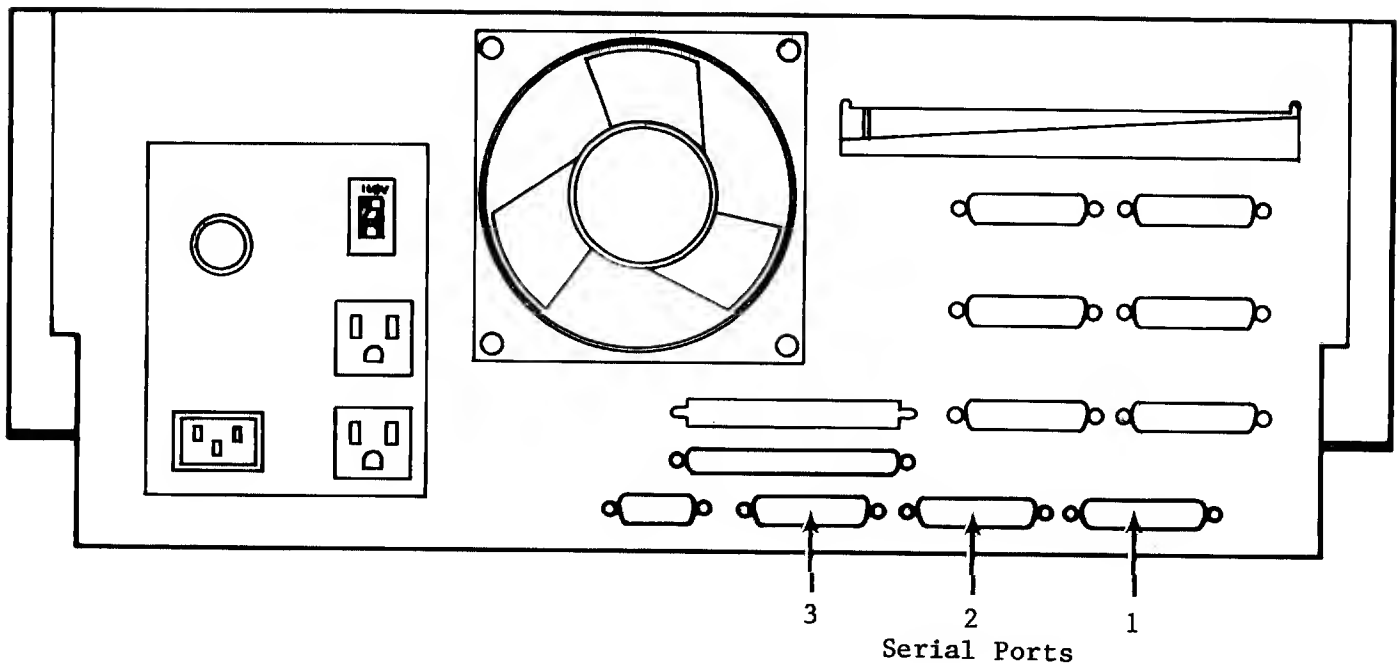
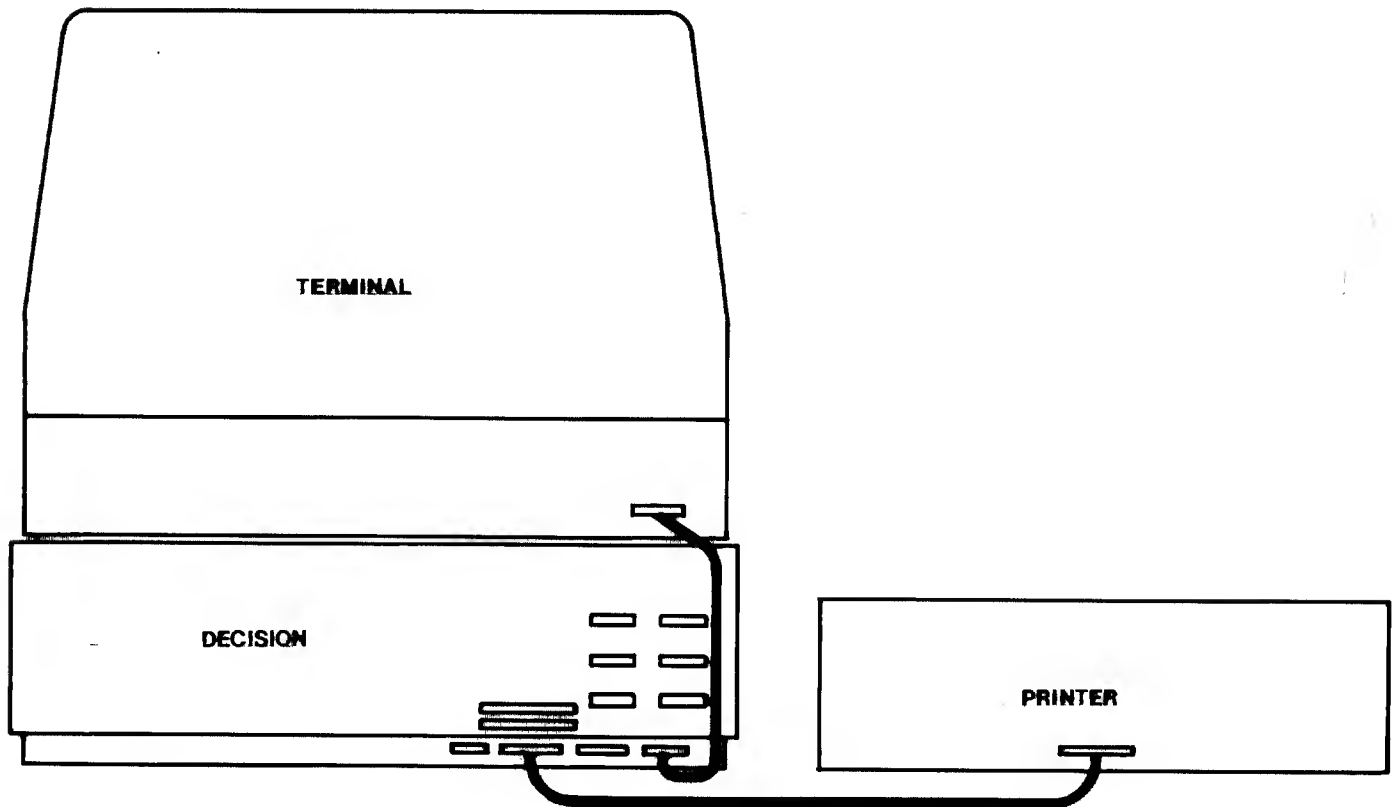

Figure 4-1: Decision Rear Panel
Figure 4-2: Connecting a Printer and Terminal
Your video terminal and printer must be connected to the Decision, and all of the devices plugged into the AC power source, before your new system can be used. This process is called "installation". Connecting a video terminal, a printer and optional, externally connected drives is accomplished by plugging in the appropriate cables to the proper connectors on the Decision rear panel. Power cords are also connected to the Decision using the AC power receptacle and utility outlets located on the rear panel. Figure 4-1 illustrates the location and labels of each rear panel connector.
2. Connect one end of the video terminal cable to the Decision rear panel port labeled Serial Port 1 (see Figure 4-1). Connect the other end of the cable to a port on the back of the terminal (see Figure 4-2).
A gummed label (sticker) will cover the AC power receptacle on the rear panel of the Decision (see Figure 4-1). This label will verify the power configuration of your unit. Make sure that this setting matches the installation site before removing the label and plugging in the Decision power cord!!
1. Plug the 50 pin printer cable connector into the pin socket labeled DAISY PRINTER (see Figure 4-1).
Your Decision is shipped with two disk drives installed, a hard disk and a 5 1/4" floppy; they are connected to separate drive controller boards located inside the computer. If you wish to add on an additional 8" inch floppy disk drive, it must be connected externally, through the port labeled 8" FLOPPY" (see Figure 4-1). Instructions for cabling, port addressing and general information about externally connected 8" floppy drives is provided in Section 11.11 of this manual. If you are connecting any other type of disk drive, refer to the supplemental "Disk Drive Add-On" documentation supplied with your Morrow disk drive.